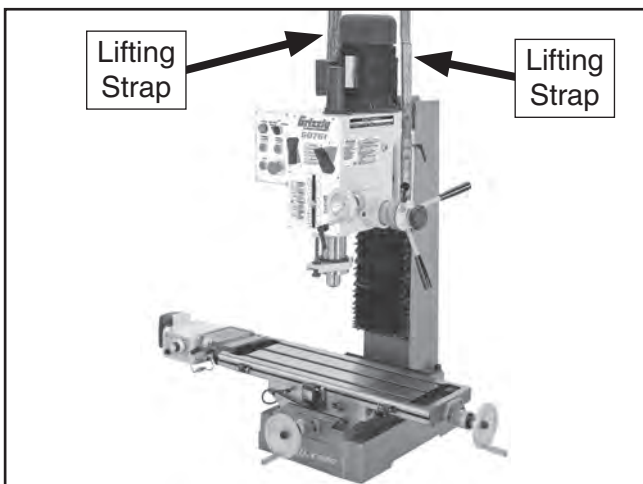

Figure 6. Recommended lifting strap position.
4. Place a lifting strap under headstock, as shown in **Figure 6**, connect strap ends to a forklift, then lift and place machine.